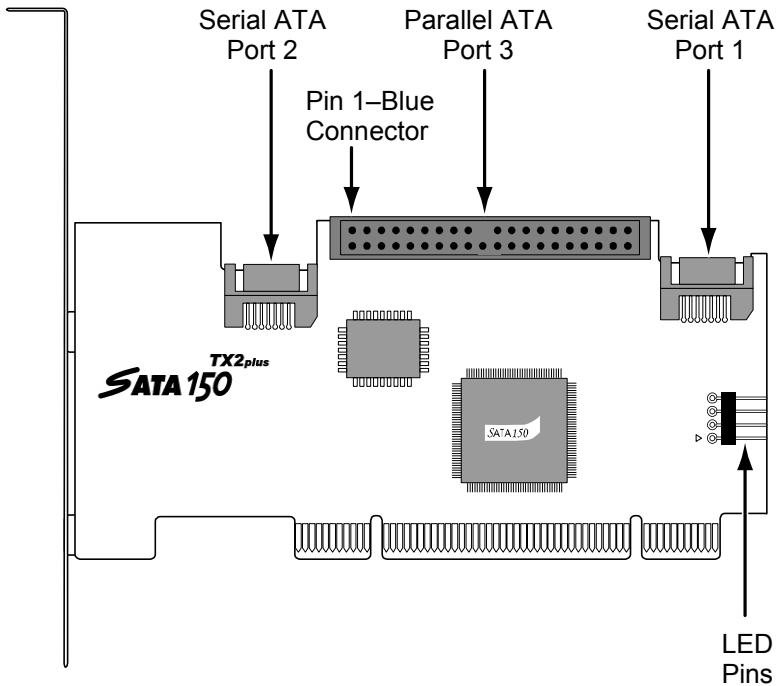

Figure 2. SATA150 TX2plus Controller card.
4. Attach your system case's 2- or 4-pin LED cable to the LED connector on the SATA150 TX Series Controller card (see Figures 2 and 3, below). Make sure that pin 1 on the connector is aligned with pin 1 of the cable.
3. Attach the Parallel ATA cable to the hard drive(s) and to the Parallel ATA Port connector on the SATA150 TX2plus controller card. The colored edge of the cable indicates pin 1 (see Figure 2 below). The blue cable connector attaches to the SATA150 TX2plus card.